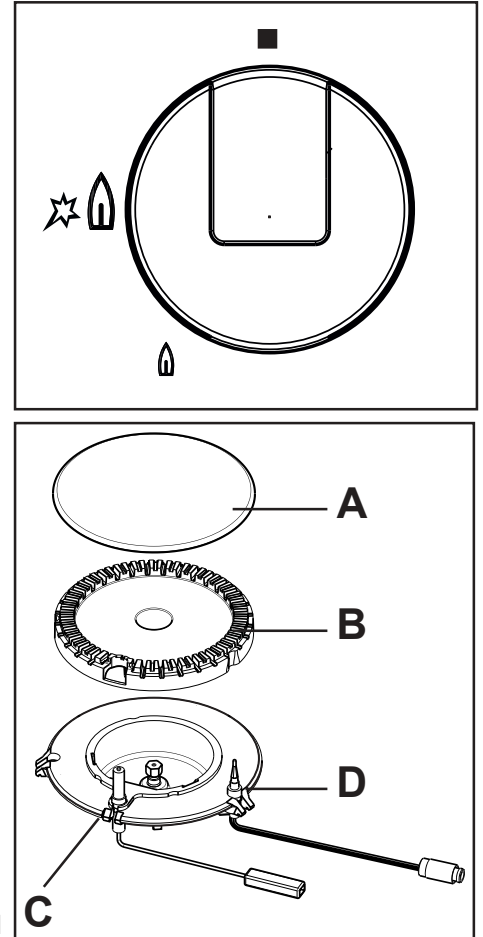

Fig. 1
2. After lighting the flame, keep the knob pushed down for about 5 seconds. This will allow the "thermocouple" (Fig. 1, lett. D) to be heated and the safety device to be switched off, otherwise the gas supply would be interrupted.
If you cannot light the flame even after several attempts, check the "cap" (Fig. 1, lett. A) and the "crown" (Fig. 1, lett. B) are in the correct position.